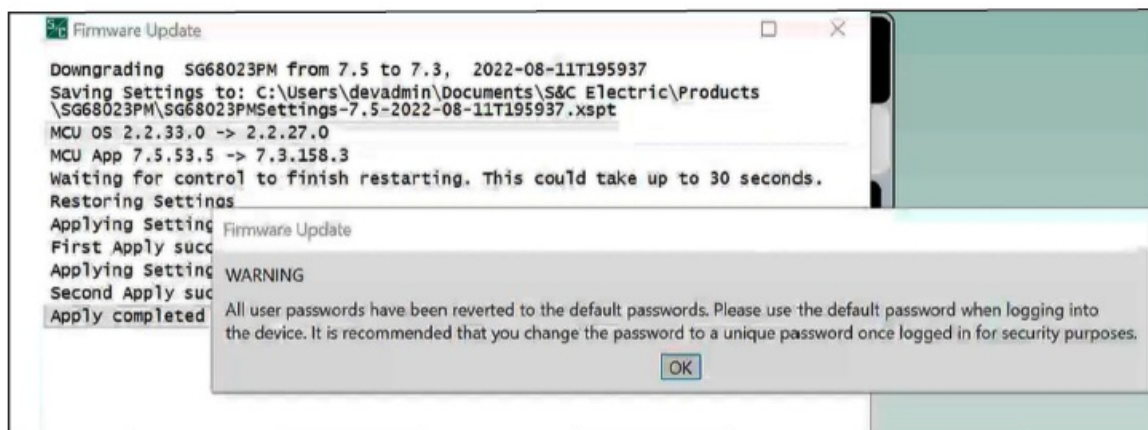

Figure 38. The message that appears after reverting passwords to defaults after a downgrade process completes.
- **STEP 20.** When downgrading from a software version of 7.3.100 or later to a software version 7.3.x or earlier, a message will appear about the passwords being reverted to defaults after the downgrade process completes. Click on the OK button to proceed. See Figure 38.